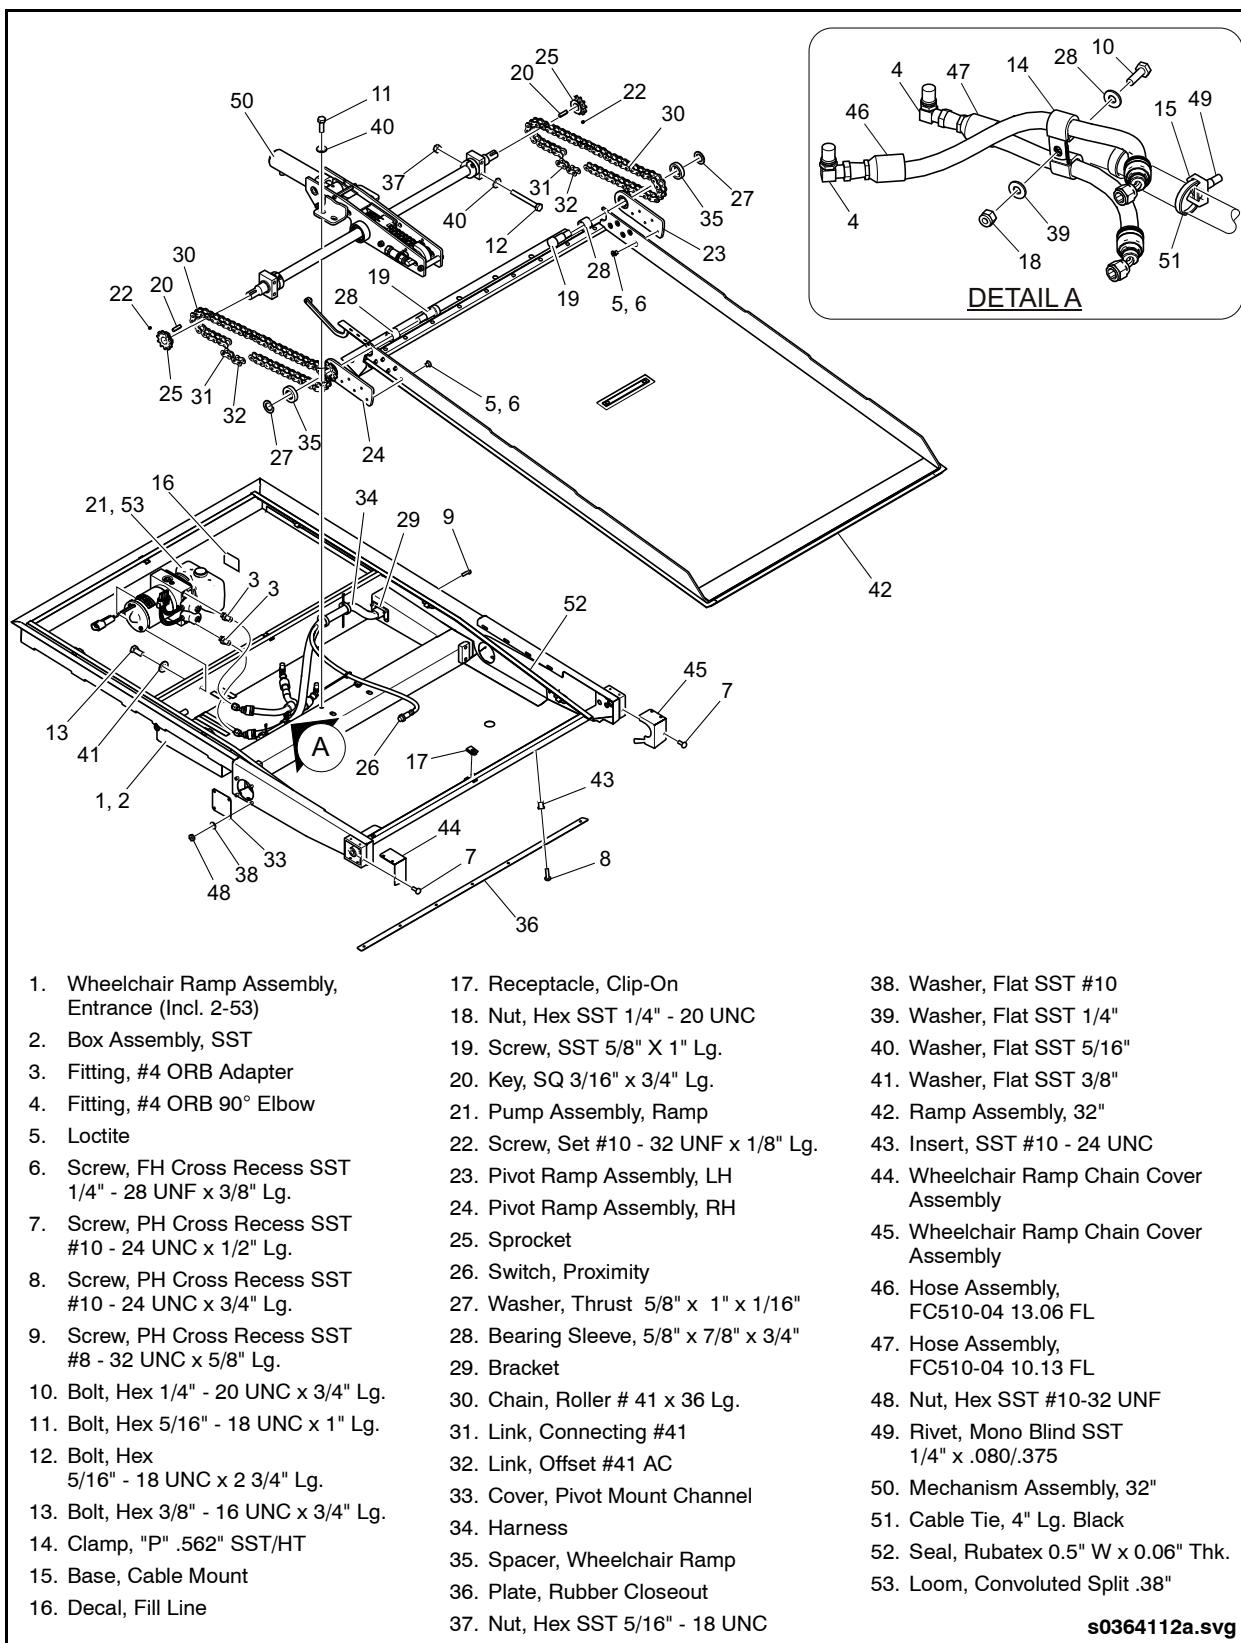

Fig. 20-3: Ramp Assembly
6. Remove the ramp access cover to expose the hydraulic pump and chain drive mechanism. See "Fig. 20-3: Ramp Assembly" on page 11.